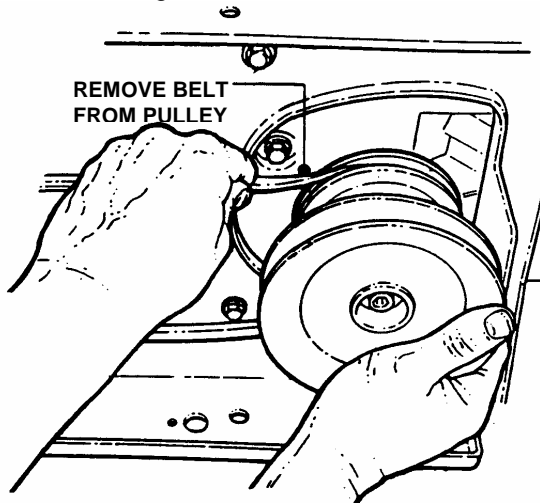

FIGURE 4.35
5. Remove traction drive belt from engine pulley top groove. See Figure 4.35.